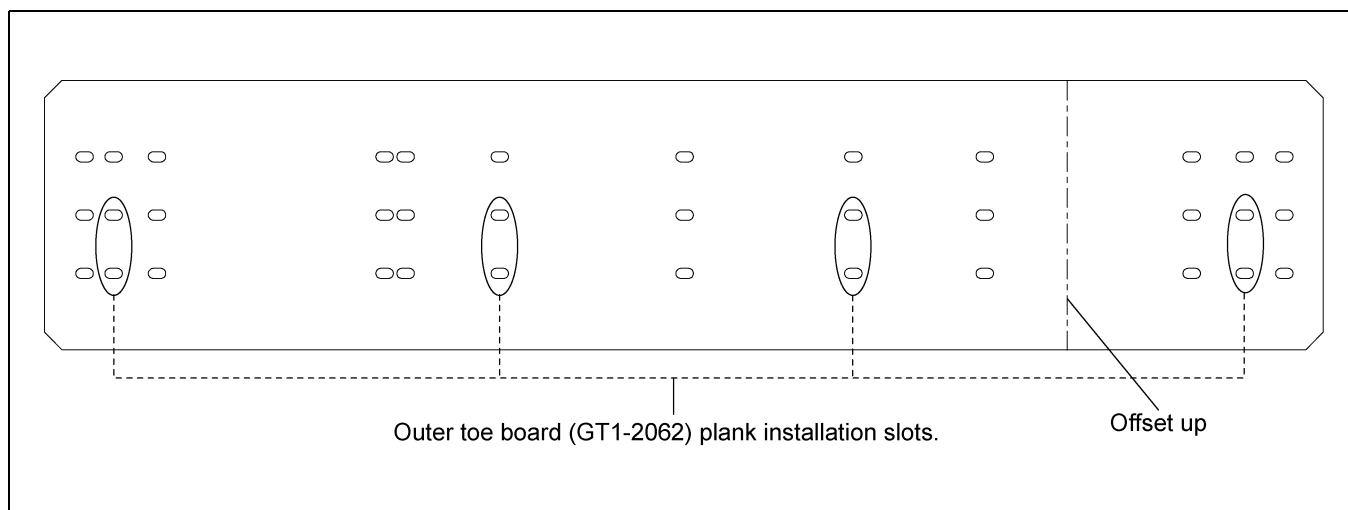

Figure 5H 18' Outer Toe Board (GT1-2062)
4. Outer toe board (GT1-2062) is arranged with many slots to install plank. Install planks to corresponding slots as shown in Figure 5H.